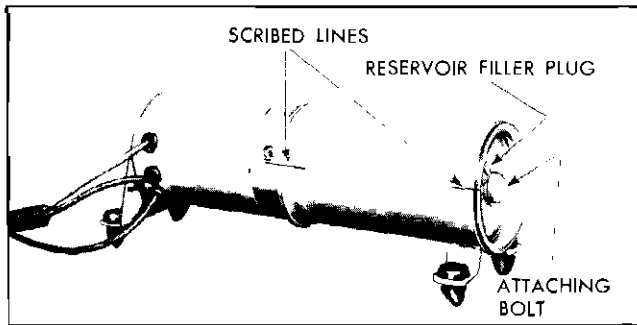

Fig. 7-54 Hydro-Letric Assembly
2. Scribe a line across pump end plate, reservoir tube and reservoir tube end plate (Fig. 7-54) to insure correct assembly of parts.